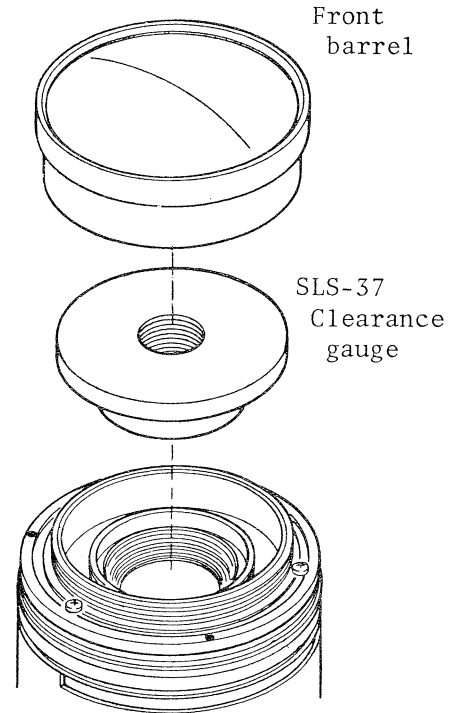

Fig.13
- 4) Put the SLS-37 clearance gauge into the middle barrel as shown in Fig. 13 and install the front barrel temporarily.